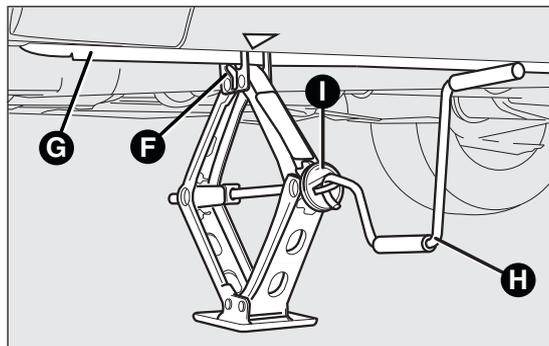

fig. 100
- turn the jack handle to partially open it fig. 100;
- extend the jack until groove F fig. 100 on the jack fits correctly into ridge G fig. 100 underneath the side member;
- ❑ fit the handle H fig. 100 to operate the jack device I fig. 100 and raise the car until the wheel is a few centimetres from the ground. When turning the jack handle make sure that it can turn freely without scraping your hand against the ground. The moving components of the jack (screws and joints) can also cause injuries: avoid touching them. If you become soiled with the lubricating grease, wash it off thoroughly;